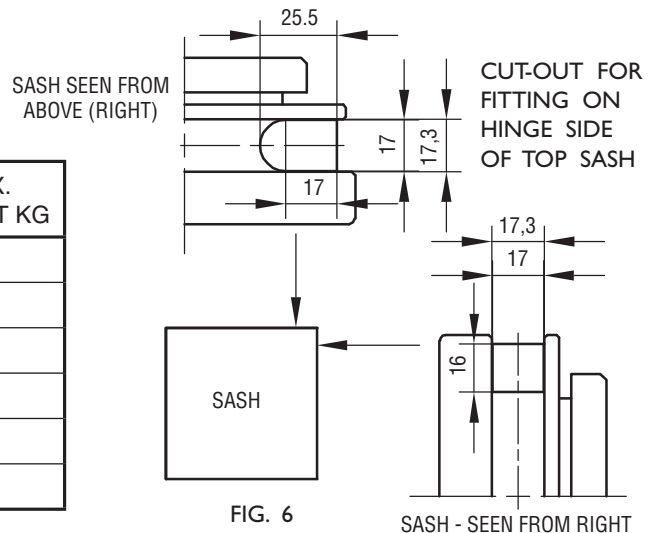

FIG. 6
3. FIT THE ALUMINIUM RAILS INTO TOP AND BOTTOM FRAME SO THAT THE BOTTOM RAIL IS PLACED AGAINST THE FRAME ON THE HINGE SIDE. SHOWN IN FIG. 6. THEN MOUNT THE FRAME BRACKETS INTO GROOVES OF THE SIDE FRAMES AND FASTEN THE SCREWS.